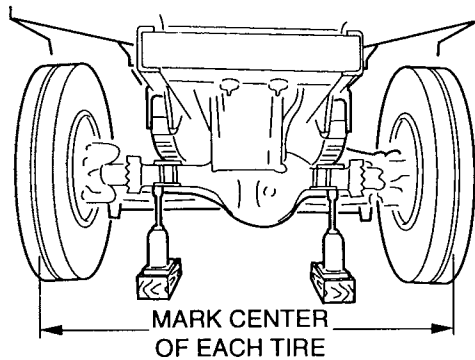

Figure 3 Scribe Tires
Adjustment can be checked as follows (See Figures 3 and 4):
1. Scribe a line at center of each tire tread completely around the tire by rotating wheel while holding chalk against tire tread. Line must begin and end at the same point. (See Figure 3).